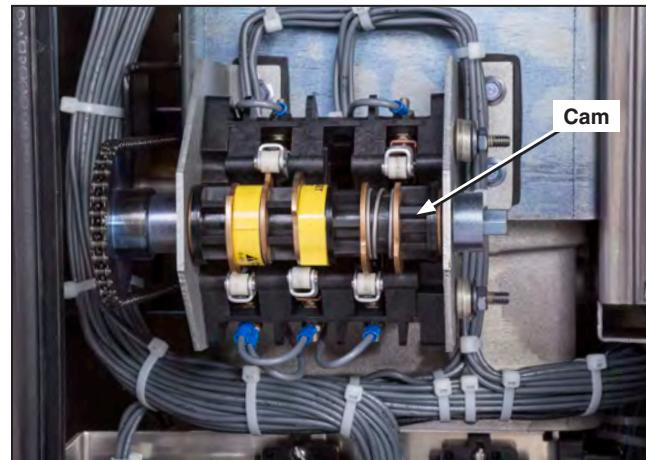

Figure 40. Adjusting the cams on the auxiliary switch.
- Push the cam toward its adjacent spring until the cam is separated from the teeth of the inner gear. See Figure 40.